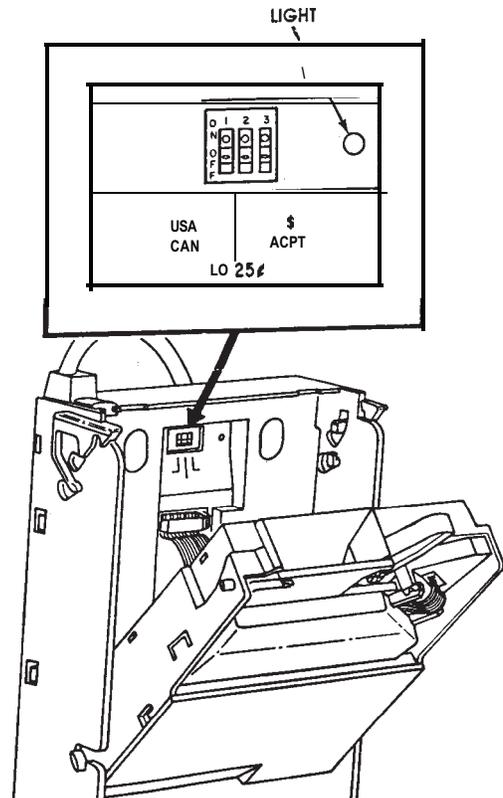

Figure 4
2. Remove the coin acceptor (upper section) portion of the coin mechanism. See **Figure 4**.